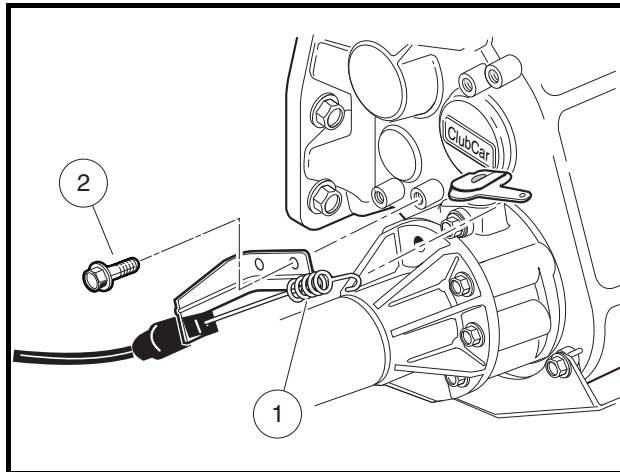

Figure 16-36 Differential Lock Bracket Installation
21. Remove the two bolts that secure the differential lock cable bracket to the transaxle housing and unhook the cable spring from the differential lock arm (**Figure 16-36, Page 16-16**).
- 6.1. Connect the differential lock cable spring (1) to the differential lock arm on the housing (**Figure 16-36, Page 16-16**).